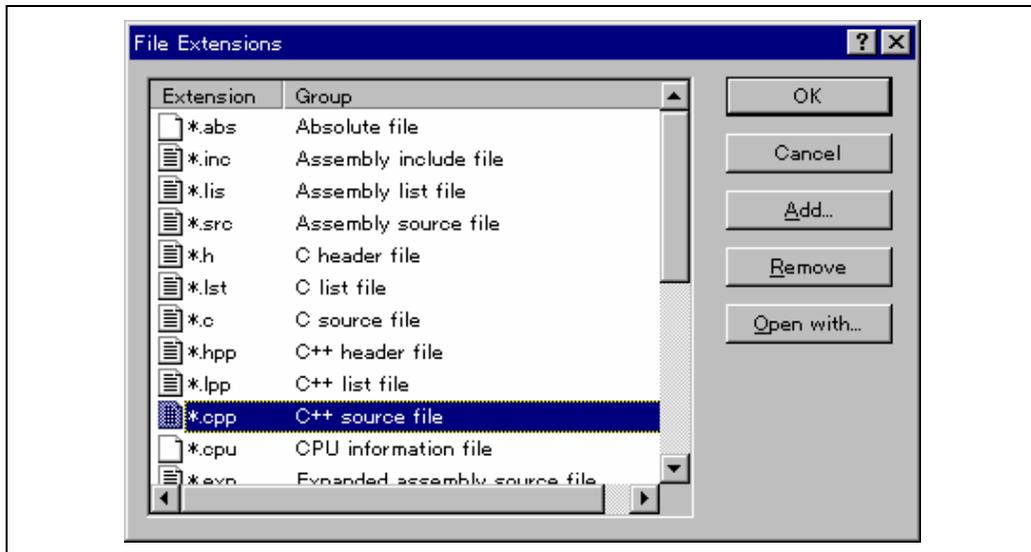
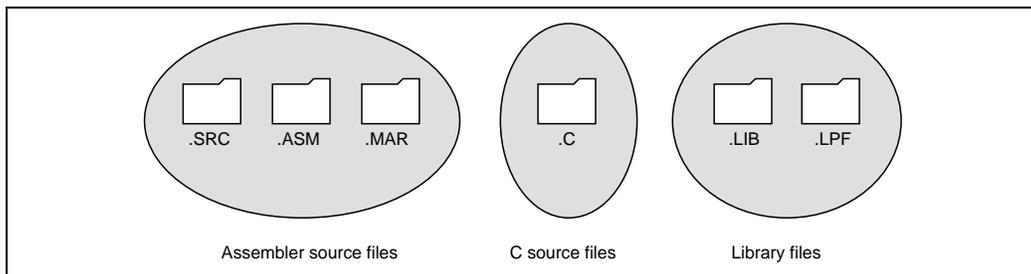

Figure 2.7: File Extensions Dialog
Figure 2.8: File Extensions and Groups
File extensions and file groups can be viewed and modified via the “File Extensions” dialog (figure 2.7). This is invoked by selecting [**Project->File Extensions...**]. This dialog displays all of the extensions and file groups, which are defined within the current workspace.
The “File Extensions” list shown in figure 2.7 is divided into two columns. On the left are the file extensions themselves, whilst on the right are the file groups. Many file extensions can belong to the same group. For example, assembler source files may have several extensions in a single project (e.g. `.src`, `.asm`, `.mar` etc) as shown in figure 2.8.
1. Select [**Project->File Extensions...**] from the menu bar. The “File Extensions” dialog will be displayed (figure 2.7).